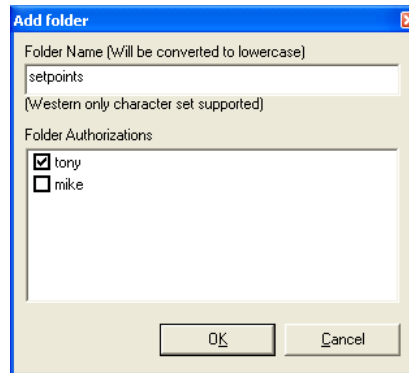

**Figure 187: Authorized Users in Site Tree**
3. Repeat Steps 1 and 2 until you add all authorized users. The users appear in the Authorizations list in the Site Tree (Figure 187).